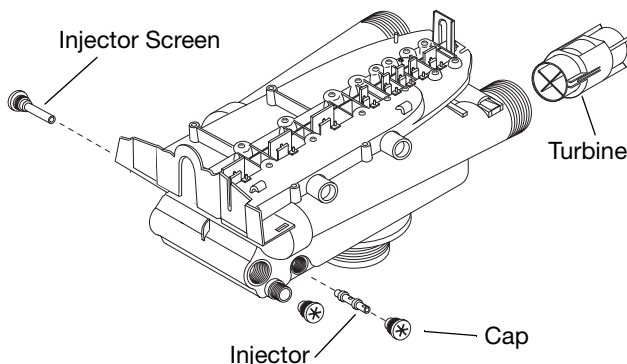

Figure 9
4. Using a screwdriver, remove injector screen and injector cap (Figure 9).
4. Using a needle-nose pliers, remove the turbine from the outlet housing. Grasp one of the four vanes of the outer gland and pull straight out to remove turbine assembly from the outlet of the valve (Figure 9).